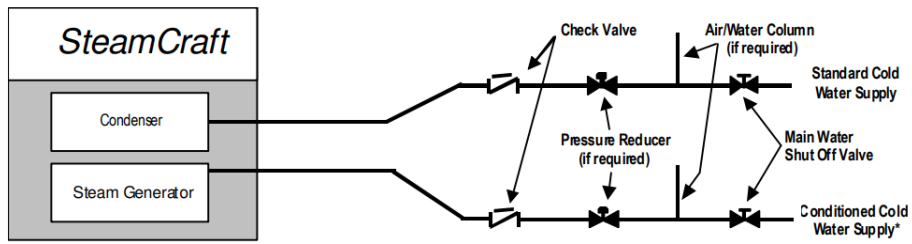

Figure 3-5 Cleveland Range Separate Water Supply Arrangement when Using Separate Conditioned* Feed Water Supply
- If the water supply fails to meet the requirements shown in the Warranty then use the Separate Water Supply Arrangement shown in Figure 3-5.